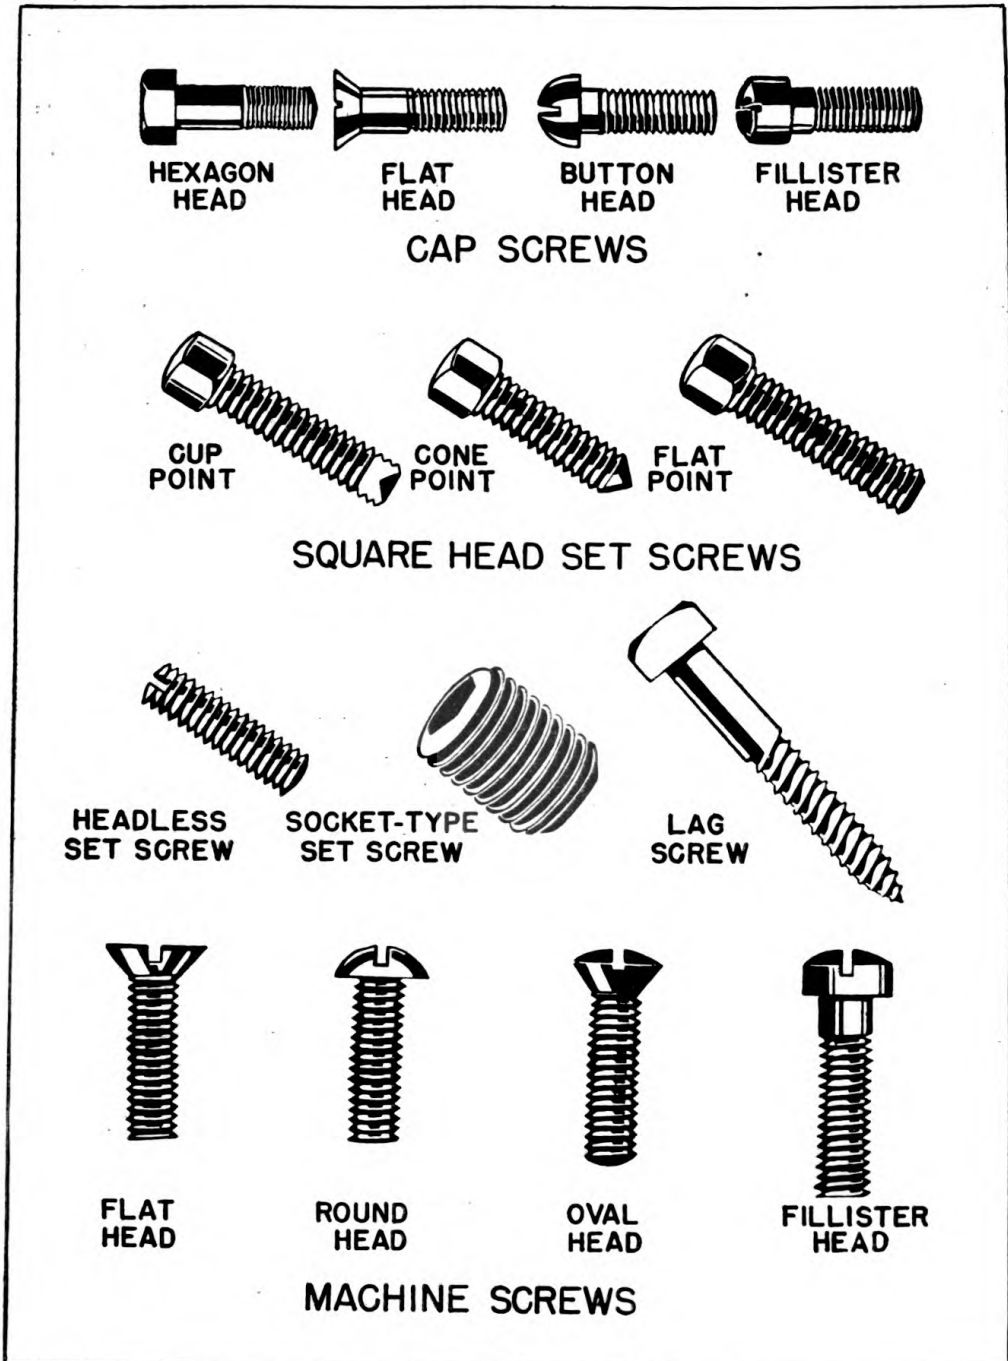

FIGURE 53.—Types of screws.
(2) The types of screws the mechanic ordinarily has to work with are shown in figure 53. Cap screws and machine screws are generally used without nuts, so a hole must be threaded (tapped) to receive